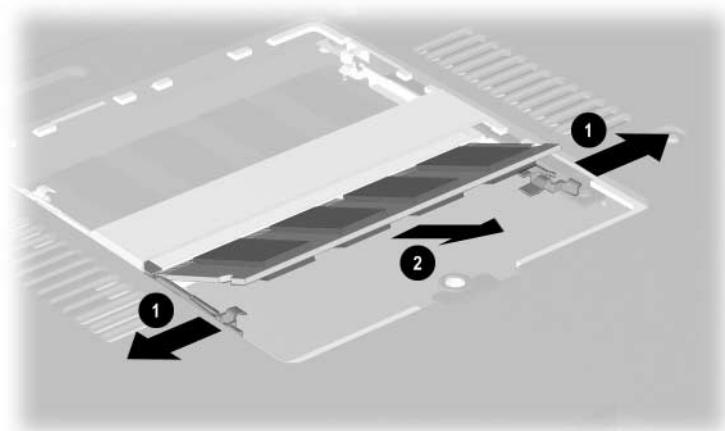

Figure 5-9. Removing a Memory Expansion Board
6. Spread the memory expansion slot retaining tabs to release the memory expansion board ①. The board tilts up at a 45-degree angle (Figure 5-9).
7. Remove the board by pulling it away from the connector at a 45-degree angle ②.